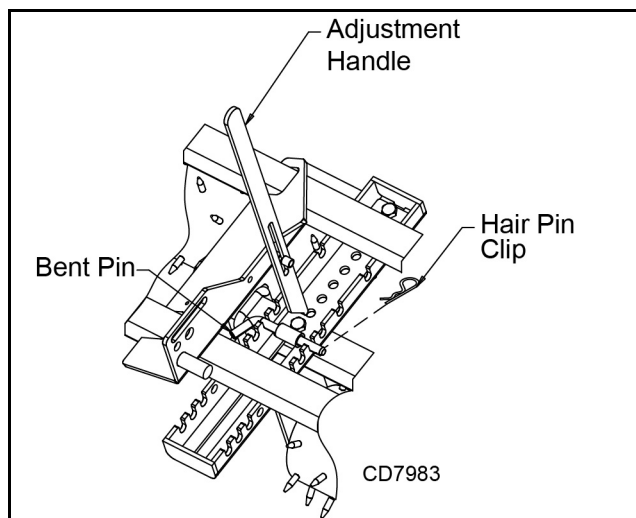

Figure 15. Spike Roller Handle Adjustment (most plate hidden for picture clarity)
7. Raise the adjustment handle and pivot it to the next adjustment hole (see Figure 15). Move handle rearward; front rollers will start to angle forward. Continue this process until front rollers have the desired angle and holes align between frame rail and roller side weldment.
7. Raise the adjustment handle and pivot it to the next adjustment role (see Figure 15). Move handle forward; front discs will start to angle rearward. Continue this process until front discs have the desired angle and holes align between from rail and disc slide weldment.